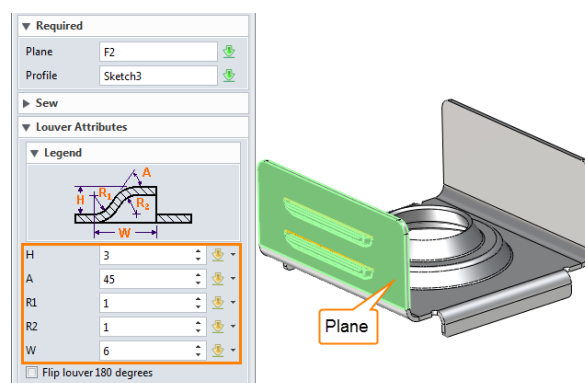

Figure 76 Create Louver
STEP 01 Select the plane and a sketch as the louver profile. Set the suitable louver parameters, as shown in Figure 76.